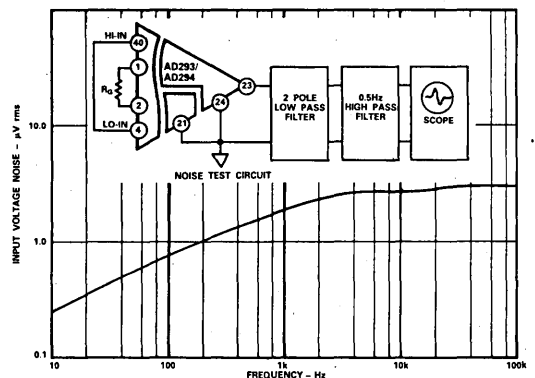

Figure 8. Typical AD293/AD294 - Input Noise vs. Frequency
**Input Voltage Noise:** Voltage noise, referred to input, is dependent on gain and bandwidth as illustrated in Figure 8. RMS voltage noise in a bandwidth from 0.05Hz to 100kHz is shown on the horizontal axis. The noise in a bandwidth from 0.05Hz to 100Hz is typically  $5\mu V$  pk-pk at a gain of 1000V/V.